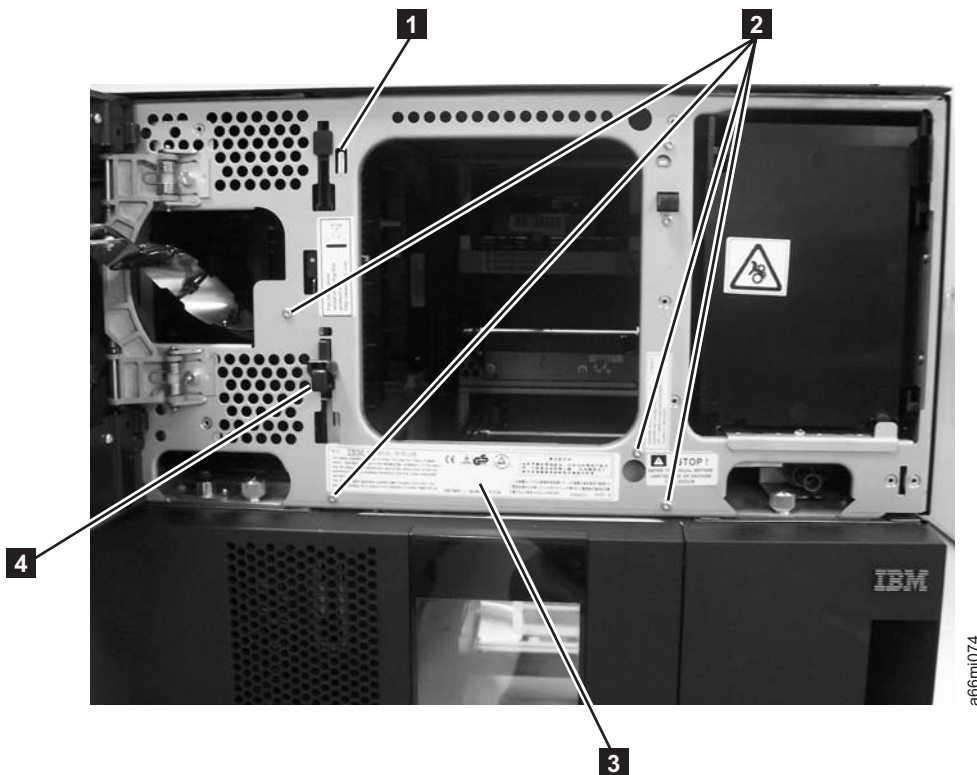

Figure 7-20. Agency Label placement
2. Place the Agency Label (**3** in Figure 7-20) on the enclosure frame underneath the Access Door opening.